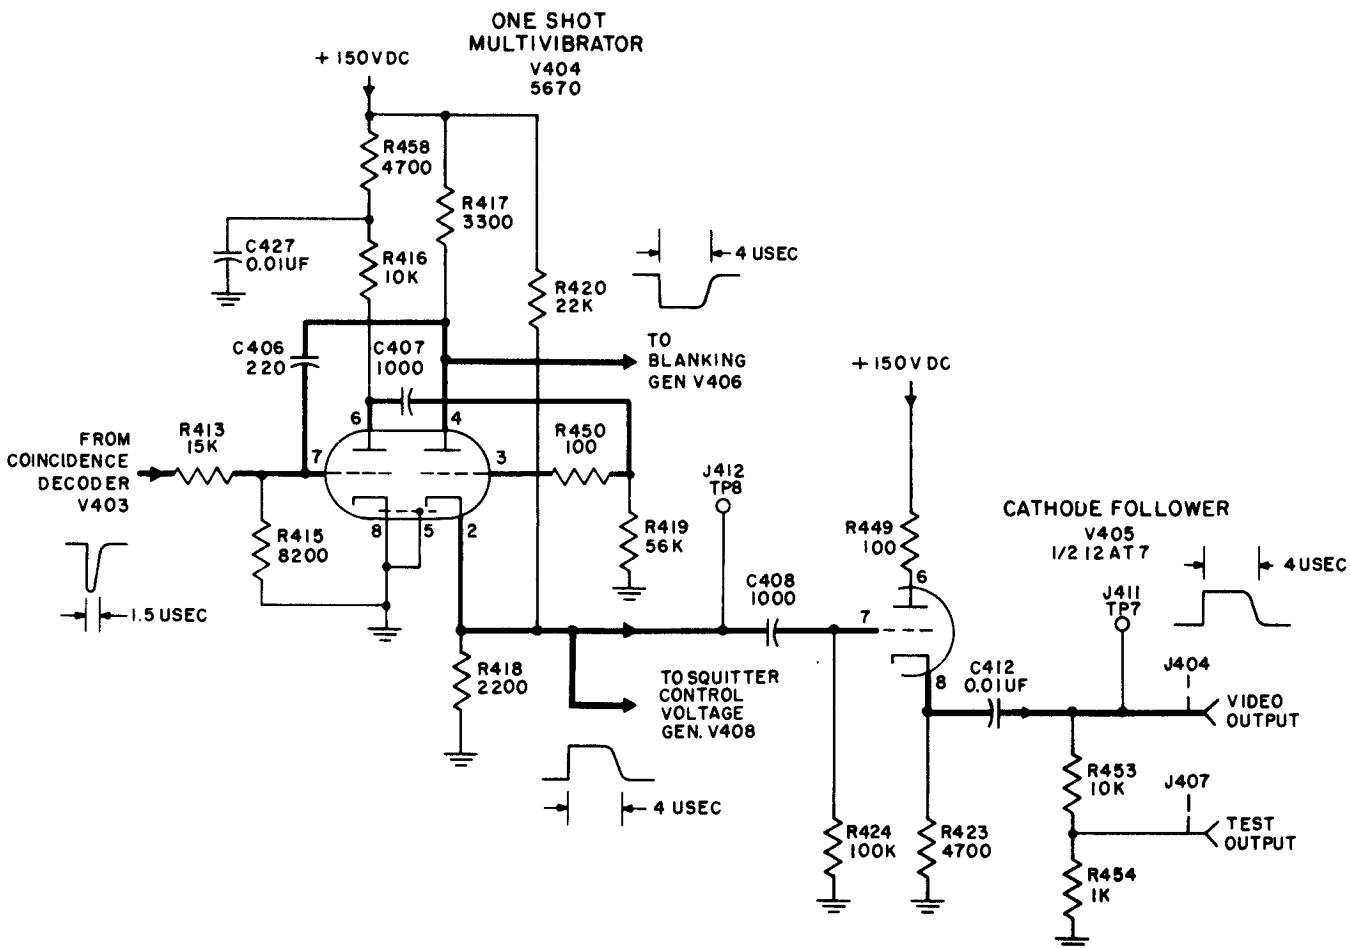

Figure 4-20. Radio Receiver R-824/URN, One-Shot Multivibrator and Receiver Output, Simplified Schematic Diagram
(f) ONE-SHOT MULTIVIBRATOR. – One-shot multivibrator V404 (figure 4-20) is triggered once for each pulse received from the decoder tube. The pulses out of the one-shot multivibrator are all of equal amplitude and width. Stage V404 output is routed to three different stages. The plate (4) output of tube V404 is fed to blanking one-shot multivibrator V406. The cathode (2) output is routed to two different stages: one to pulse amplifier V408 (squitter-voltage generator stage) and the other to cathode follower V405 (receiver output to the coder-indicator).
(i) RECEIVER OUTPUT CATHODE FOLLOWERS. — The third output of V404 is to cathode follower stage V405 (figure 4-20). V405 is a twin triode; one triode output is not used at this time. The